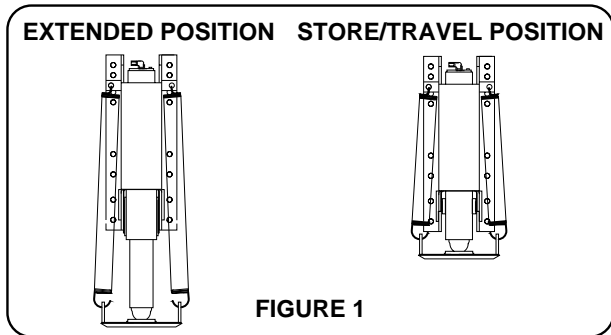

FIGURE 1
2. Press the "STORE" button. As each jack retracts, its red WARNING light will go out. The vehicle can be moved as soon as the red WARNING lights are out, provided the jacks are in the STORE/TRAVEL position. (See FIGURE 1)